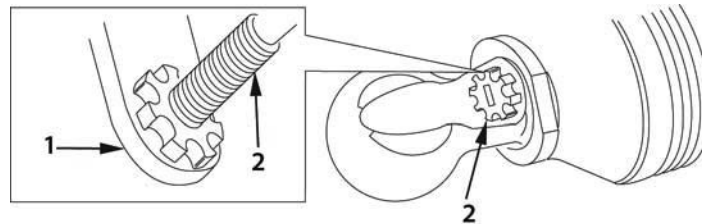

Figure 9. Installation of Firing Pin.
5. Using firing pin wrench (Figure 9, Item 1), install firing pin (Figure 9, Item 2) until seated.